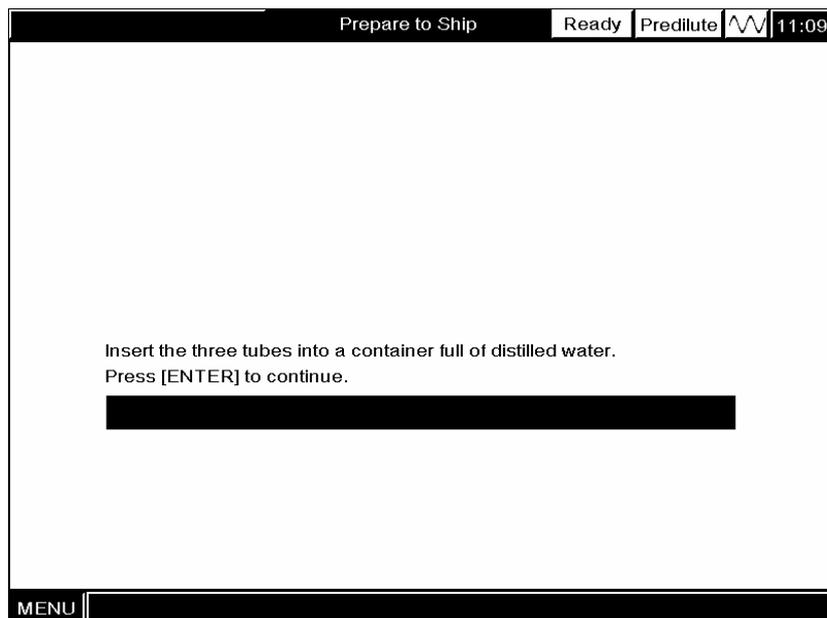

Figure10-38 Washing the analyzer
4. When the draining is done, place the diluent, rinse and lyse pickup tubes into a container filled with distilled water and press [ENTER], as the Figure10-38 shows.